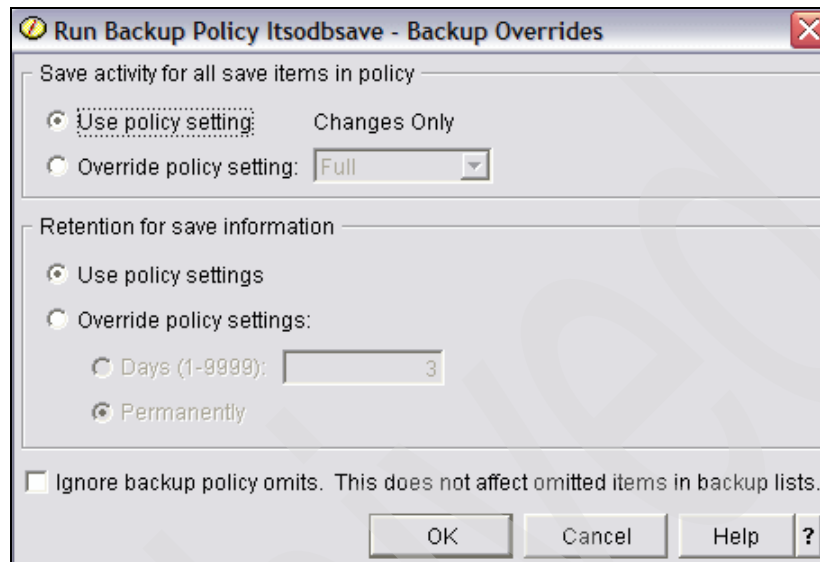

Figure 8-2 Backup overrides
5. A window appears, asking whether you want to override policy settings, as shown in Figure 8-2. Select **Use policy setting** for both the fields in the Figure, and click **OK**.